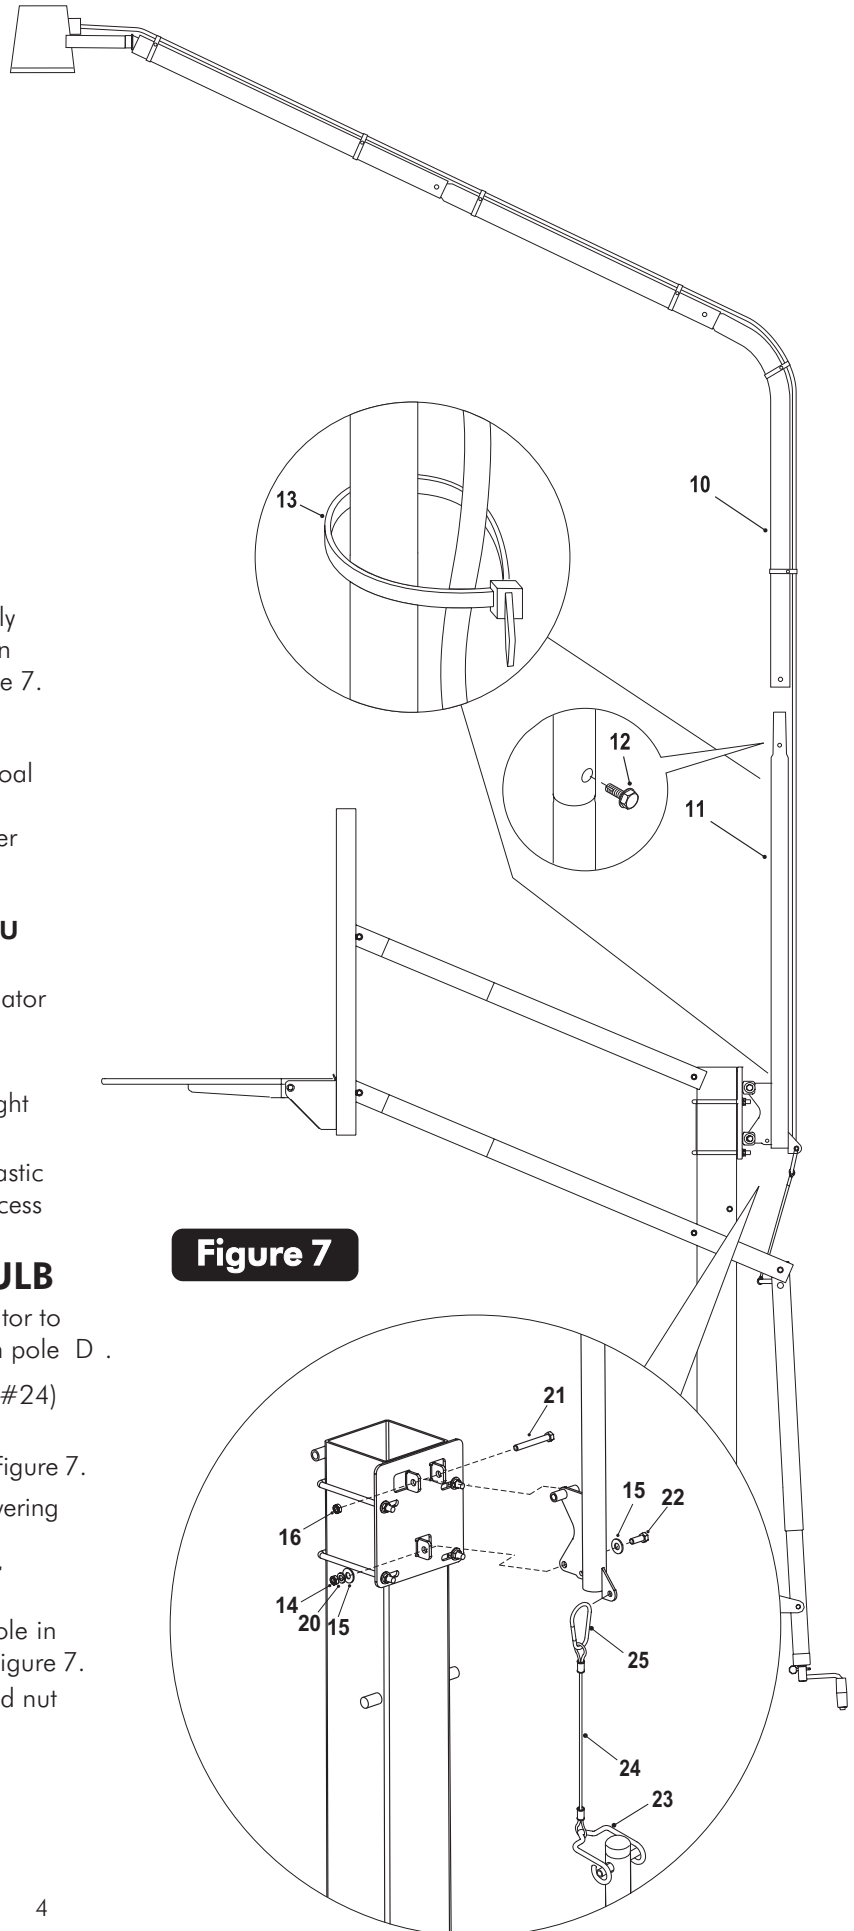

Figure 7
- With the help of at least one other adult, lift hooplight assembly up and insert Pole Section "C" (#10) on top of Pole Section "D" (#11). Secure with a self tapping screw (#12). See Figure 7.
- Secure the remaining electrical cord to the pole with two plastic ties (#13) in the locations shown in Figure 7. Cut off excess Plastic tie.
- Remove bottom bolt (#22) that holds hoop light to post. See Figure 7.
- Raise goal by turning actuator handle. Raise height until hole in hoop light bracket aligns with hole in tab on goal post. See Figure 7. Reinstall bolt (#63), washers (#62), lockwashers (#75), and nut (#76) you removed in step 3.